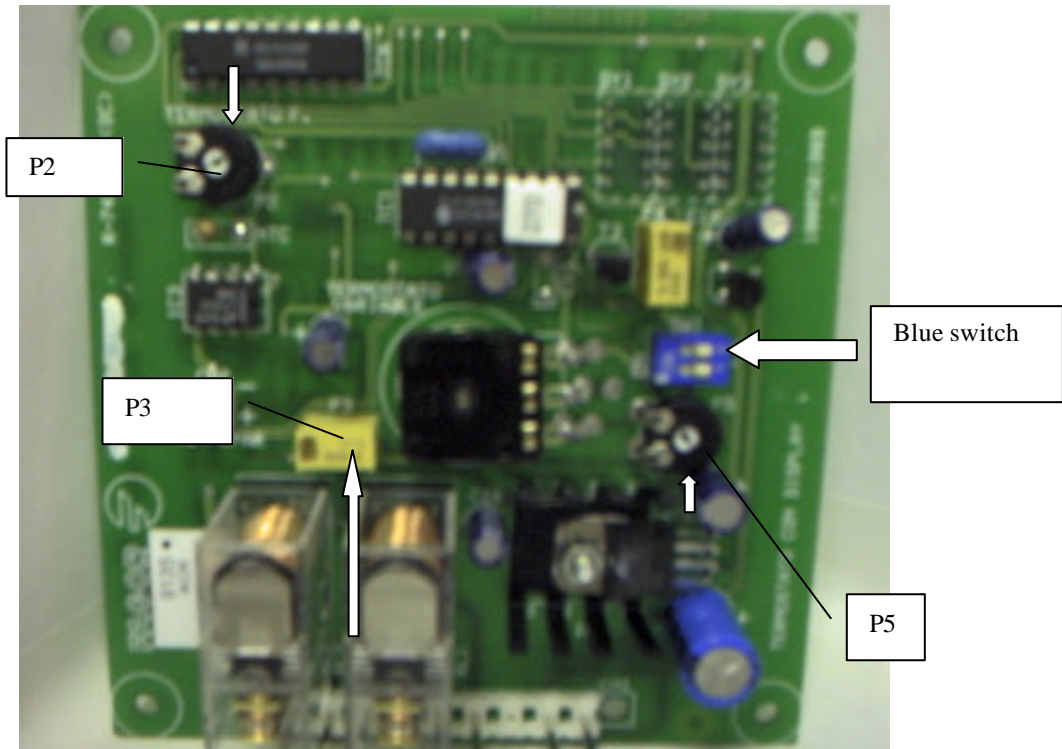

fig 54
- With DOWN (5) move parameters until (3) “PSE” appears on display. (fig 54)
- With SET held down, press “UP” to choose “Cr” parameter on display for K-type thermocouple. (fig 54)